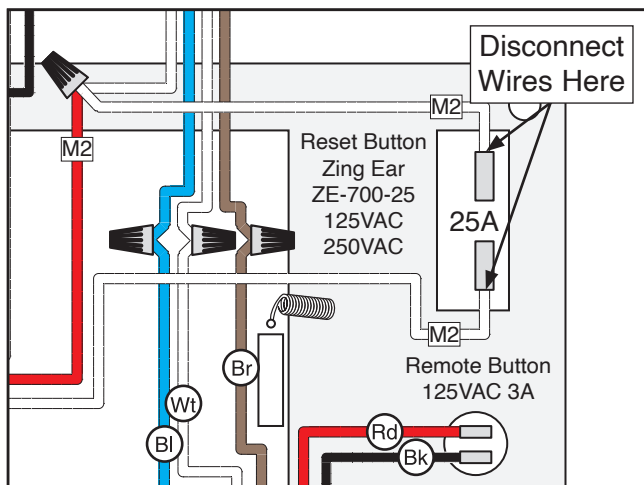

Figure 10. Circuit breaker wiring (110V).
- Disconnect wires from 25A circuit breaker (see **Figure 10**).